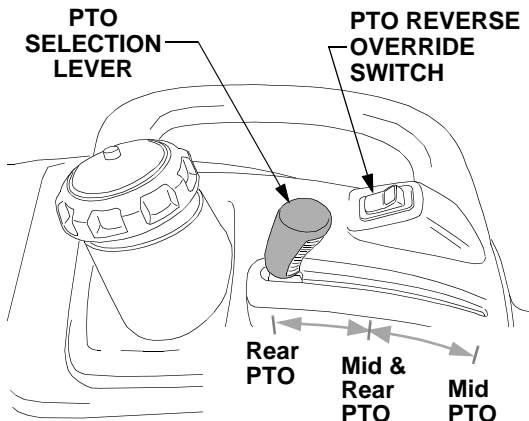

Figure 19
- Shift the PTO selection lever rearward to select the rear PTO. The rear PTO is used to drive equipment designed to operate at an input speed of 540 RPM. See Figure 19.
The PTO reverse override switch, located on the *left* fender, allows the PTO to operate while the tractor is traveling in the reverse direction. Refer to Figure 19.